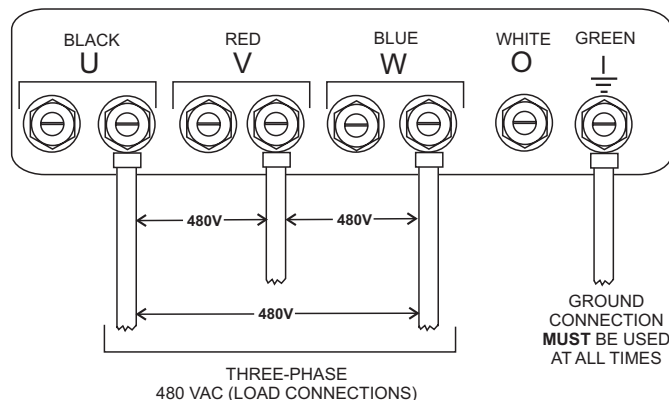

Figure 33. UVWO Terminal Lugs 1Ø-480V Connections
2. Connect the load wires to the UVWO terminals as shown in Figure 33.